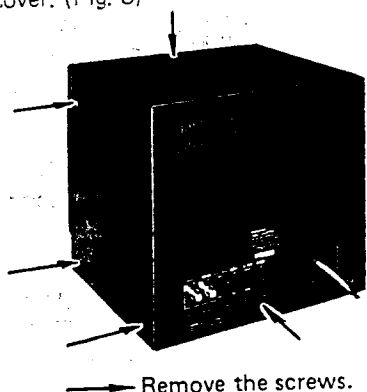

Fig. 3
- Remove eight screws fixing the upper cover and remove the cover. (Fig. 3)